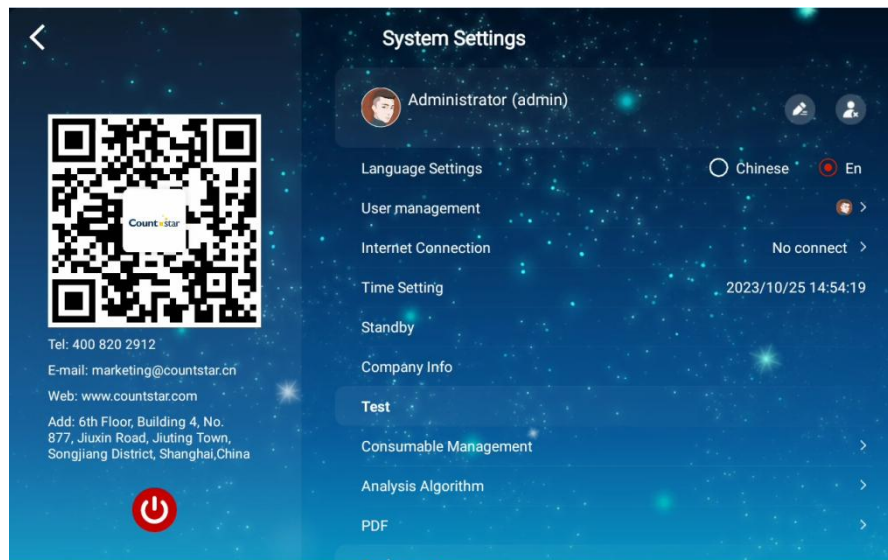
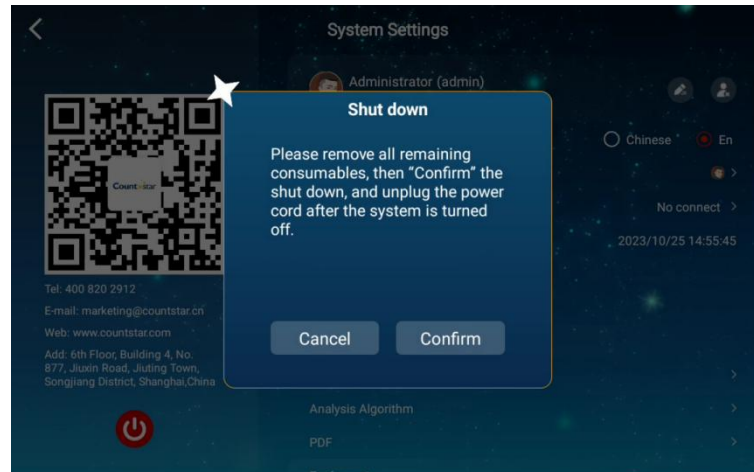

Fig. 2.2 System Settings user interface of the Countstar® Mira HT
Fig. 2.9 Dialog box of the shut-down menu
1) The system needs to be turned on (power switch at the back of the analyzer) and booted up completely, so that the main menu is visible on the screen of the instrument. The user has to enter the System Settings in the user interface, as displayed in **Fig. 2.2**.
1) If the user wants to shut down the Countstar® Mira HT, he should click on the "  " icon in the System settings menu (shown in **Fig. 2.2**) to enter a pop-up window with a dialog to determine whether or not shutting down the machine (**Fig. 2.9**).